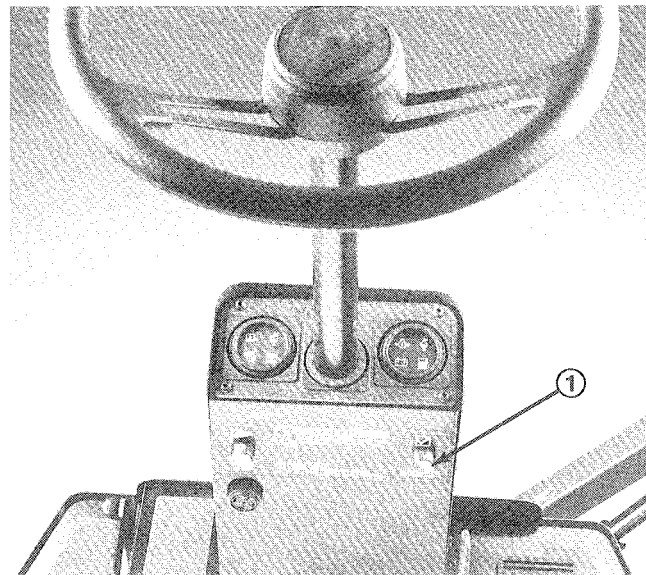

Figure 14
1. Apply parking brake, turn ignition key ON. Push warning indicator light button (Fig. 14). All lights should illuminate and the alarm will sound.